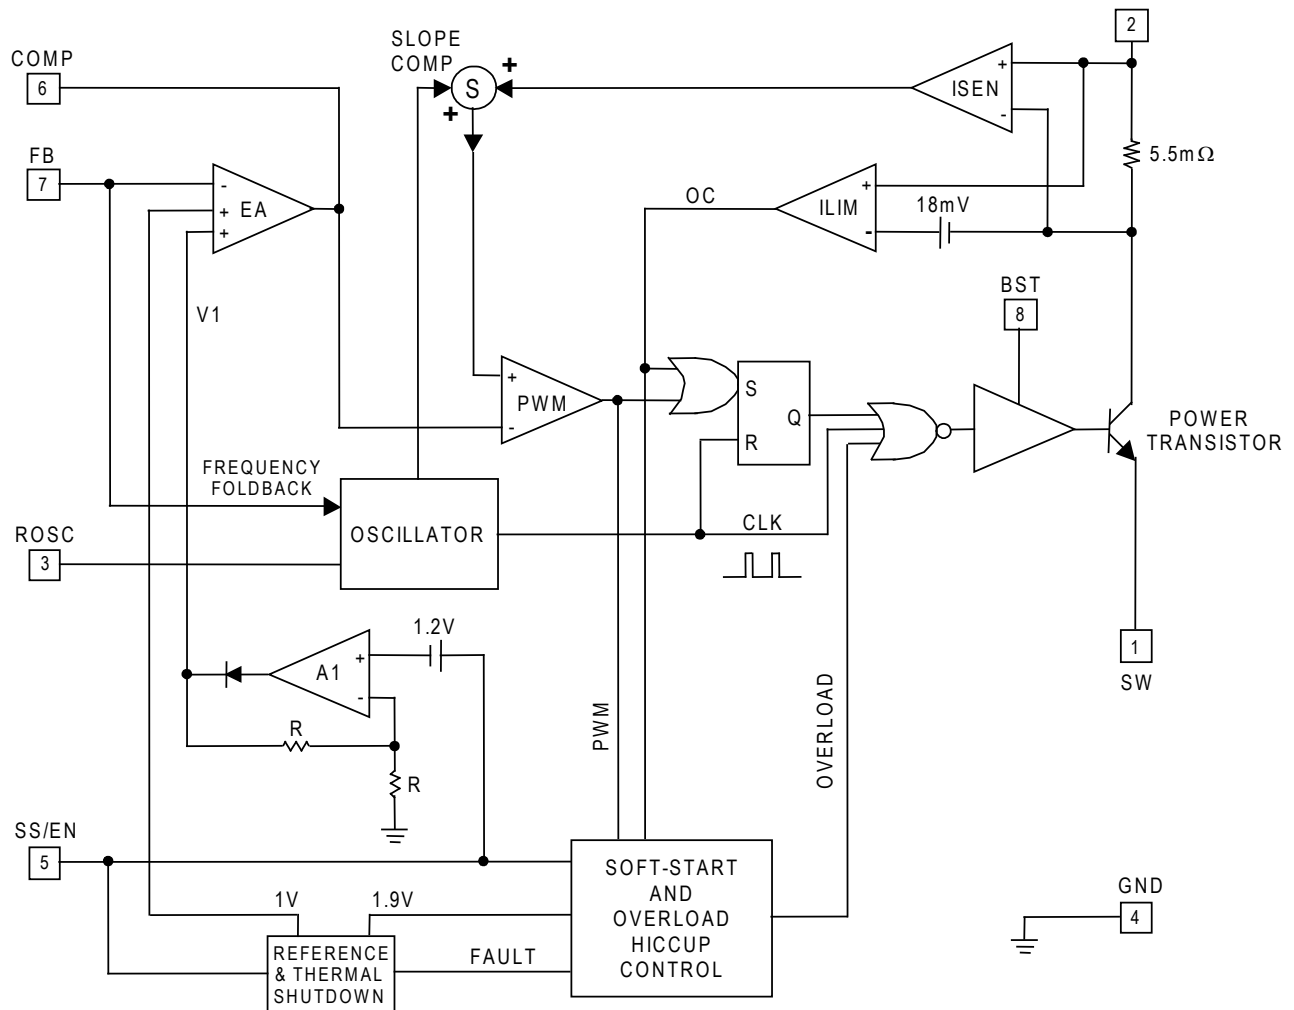

Figure 2 — SC4524C Block Diagram
As shown in Figure 2, the switch collector current is sensed with an integrated 5.5mΩ sense resistor. The sensed current is summed with a slope-compensating ramp before it is compared with the transconductance error amplifier (EA) output. The PWM comparator trip point determines the switch turn-on pulse width. The current-limit comparator ILIM turns off the power switch when the sensed signal exceeds the 18mV current-limit threshold.
The error amplifier EA in Figure 2 has two non-inverting inputs. The non-inverting input with the lower voltage predominates. One of the non-inverting inputs is biased to a precision 1V reference and the other non-inverting input is tied to the output of the amplifier A_1 . Amplifier A_1 produces an output $V_1 = 2(V_{SS/EN} - 1.2V)$. V_1 is zero and COMP is forced low when $V_{SS/EN}$ is below 1.2V. During start up, the effective non-inverting input of EA stays at zero until the soft-start capacitor is charged above 1.2V. Once $V_{SS/EN}$ exceeds 1.2V, COMP is released. The regulator starts to switch when V_{COMP} rises above 0.4V. If the soft-start interval is made sufficiently long, then the FB voltage (hence the output voltage) will track V_1 during start up. $V_{SS/EN}$ must be at least 1.83V for the output to achieve regulation. Proper soft-start prevents output overshoot. Current drawn from the input supply is also well controlled.
becomes armed. As the load draws more current from the regulator, the current-limit comparator ILIM (Figure 2) will eventually limit the switch current on a cycle-by-cycle basis. The over-current signal OC goes high, setting the latch B₃. The soft-start capacitor is discharged with (I_D - I_C) (Figure 3). If the inductor current falls below the current limit and the PWM comparator instead turns off the switch, then latch B₃ will be reset and I_C will recharge the soft-start capacitor. If over-current condition persists or OC becomes asserted more often than PWM over a period of time, then the soft-start capacitor will be discharged below 1.9V. At this juncture, comparator B₄ sets the overload latch B₂. The soft-start capacitor will be continuously discharged with (I_D - I_C). The COMP pin is immediately pulled to ground. The switching regulator is shut off until the soft-start capacitor is discharged below 1.0V. At this moment, the overload latch is reset. The soft-start capacitor is recharged and the converter again undergoes soft-start. The regulator will go through soft-start, overload shutdown and restart until it is no longer overloaded.
The PWM latch in Figure 2 is reset every cycle by the clock. The clock also turns off the power transistor to refresh the bootstrap capacitor. This minimum off time limits the attainable duty cycle of the regulator at a given switching frequency. The measured minimum off time is 100ns typically. If the required duty cycle is higher than the attainable maximum, then the output voltage will not be able to reach its set value in continuous-conduction mode.